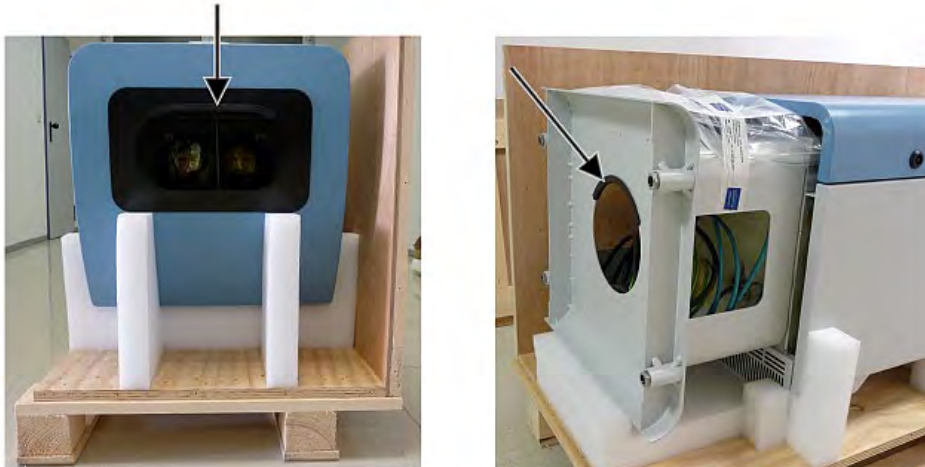

Figure 8 Lifting positions and handle protection (edge protection profile).
- ⇒ Hand truck: For greater distances to the concrete foundation (Figure 8)
<ul style="list-style-type: none"> ⇒ When transporting with a hand truck, make sure that the CHM 15k is placed on the hand truck with the exterior door facing downwards (see Figure 8) ⇒ A cushion (e. g. bubble wrap) should be placed between the CHM and the hand truck